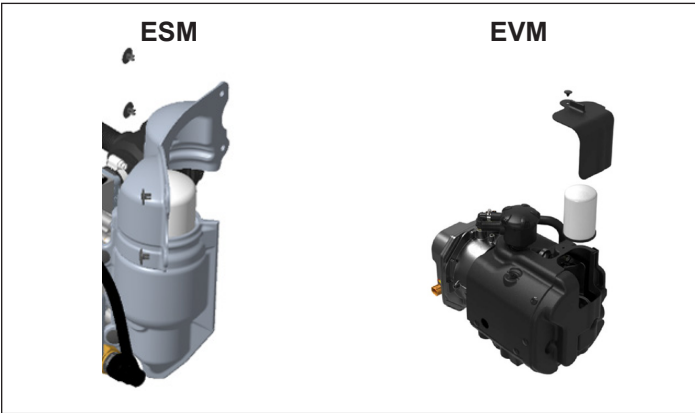

Figure 2 – Insulation Removal
1. Remove the insulation or cover over the oil-coalescing cartridge by removing either the panel clips or fasteners using the appropriate tool (not included in the kits). See Figure 2.